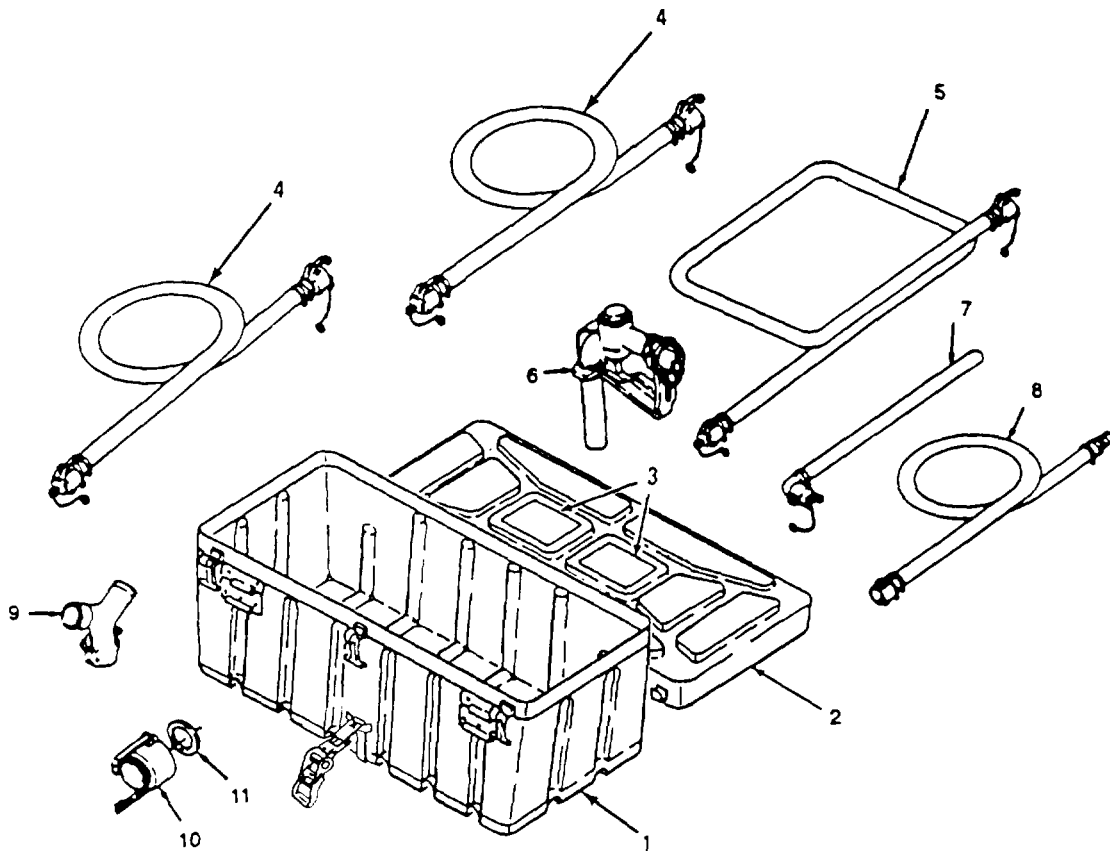

Figure 1-3. Storage Chest 1 and Related Pump Accessories
- (4) Engine air intake baffle. This baffle combines with the enclosures to direct air to the air cleaner and the flywheel fan. Additionally, during cold weather starting procedures, this baffle encloses a space that is warmed by the engine intake heater.
- (5) Intervehicle power cable electrical plug connector. This electrical connector is used during pump unit operation in cold weather. It allows the pump assembly to be connected to the 24 volt DC electrical systems of Army vehicles. Pump assembly has two internal electric heaters that are used during cold weather starting of the pump assembly. The intake air heater warms air coming into the enclosure and the engine intake air. The engine oil is warmed by an immersion heater installed into the side of the engine facing the sound enclosure rear panel assembly. Controls and indicators for the two heaters are mounted on the sound enclosure front panel assembly. This electrical connector has an attached dust cover to prevent damage and contamination when connector is not in use.
- (6) Intake air heater. This 400 watt finned heater runs on 24 volts DC supplied from the intervehicle power cable electrical plug connector. The heater mounts on the pump frame.
- (7) Immersion heater. This 75 watt immersion heater runs on 24 volts DC supplied from the intervehicle power cable electrical plug connector. The engine has accommodations for an oil dipstick to be mounted on either side of the engine. This heater threads into the unused oil dipstick location on the engine crankcase facing the sound enclosure rear panel assembly.
- (8) Pump frame. The pump frame provides mounting points for the sound enclosures, pump and motor assembly, air intake heater, ground rod attachment, etc. It rigidly supports all components of the pump unit and provides 4 folding handles to allow 4 soldiers to move the pump assembly as required.
- (9) Pump suction connection. The connection to the suction side of the centrifugal pump is made through a 1.5 inch nominal ID female quick disconnect. Installed in this fitting is an internal gasket. When the pump unit is not in use, a male quick disconnect dust plug is installed to protect the centrifugal pump from contamination.
- (10) Pump discharge connection. The connection to the discharge side of the centrifugal pump is made through a 1.5 inch nominal ID male quick disconnect. When the pump unit is not in use, a female quick disconnect dust cap is installed to protect the centrifugal pump from contamination. During pumping unit set up, the pump discharge connection is also used to prime the pump with the liquid to be pumped. Installed in this female quick disconnect is an internal gasket.
- (11) Diesel engine. Four-stroke, vertical cylinder, air-cooled diesel. Provides power necessary to drive the pump. Diesel engine is attached to the engine mounting plate. The engine mounting plate is attached to the pump frame using rubberized shock mounts to reduce noise and vibration during pumping operation. A grounding strap electrically connects the engine (and the attached centrifugal pump) to the frame. During pumping operation, a ground rod is attached to the frame to prevent static electricity buildup.
- (12) Centrifugal Pump. Continuous duty, self-priming, 50 GPM at 100 feet of head. This pump incorporates a check valve on its suction side. The centrifugal pump is mounted to the diesel engine and is keyed to the engine's output shaft.
- (13) Spark arrestor. This baffle assembly suppresses engine exhaust sparks. The spark arrestor is mounted on the engine.
c. Storage Chest 1 and Related Pump Accessories (See Figure 1-3).
- (1) Storage Chest 1 Bottom (one each)
- (2) Storage Chest 1 Top (one each)
- (3) Storage Chest 1 Information Plate (one each)
- (4) Discharge Hose Assembly (two each)